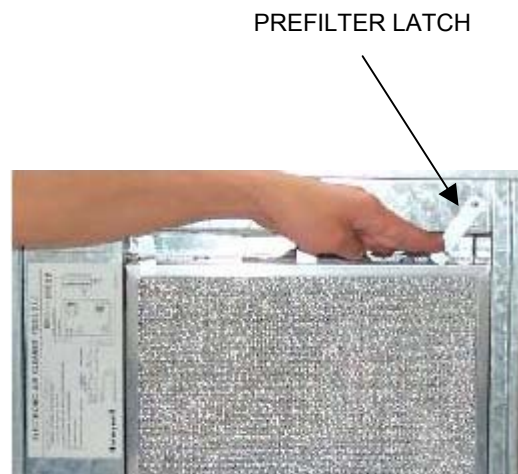

Fig. 13. Turn pre-filter latch to lock in place.
3. Reinstall the pre-filter by seating it into the rail. Rotate the Pre-filter latches to secure the pre-filter. See Fig. 13.